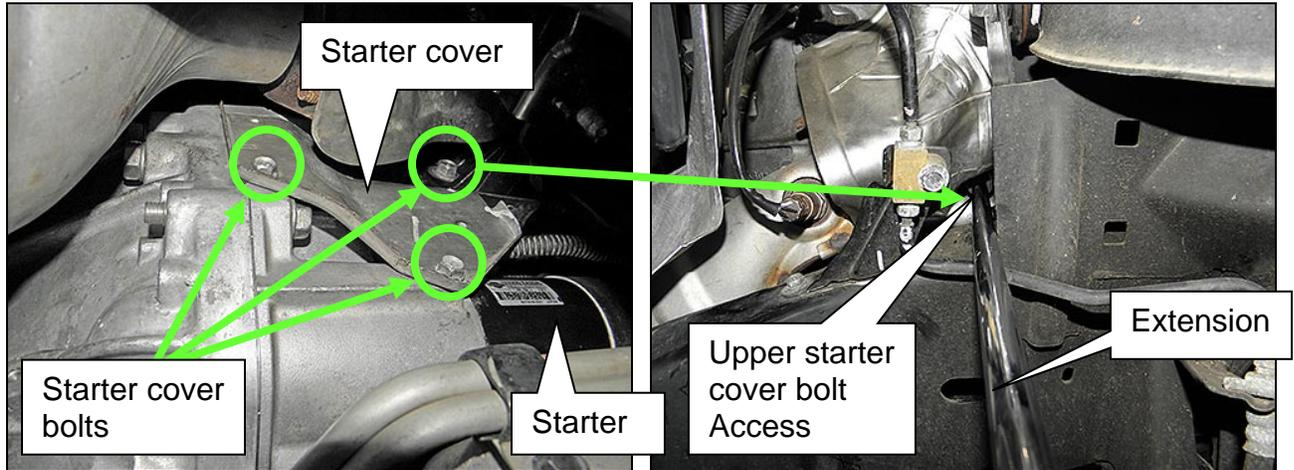

Figure 16
17. Remove the upper starter cover bolt and then two lower starter cover bolts attaching the starter cover to the starter (Figure 16).